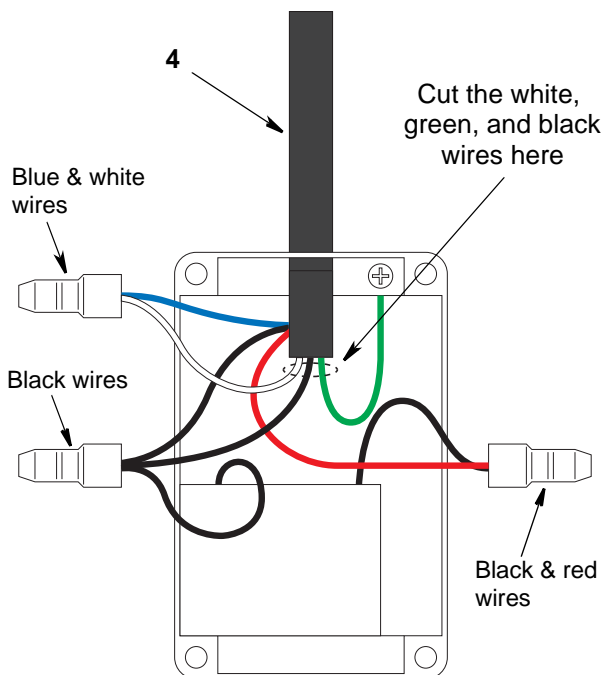

FIG. 4 Motor junction box with original motor power cable
3. Cut only the white, green, and black wires in the existing motor power cable (4). See FIG. 4.